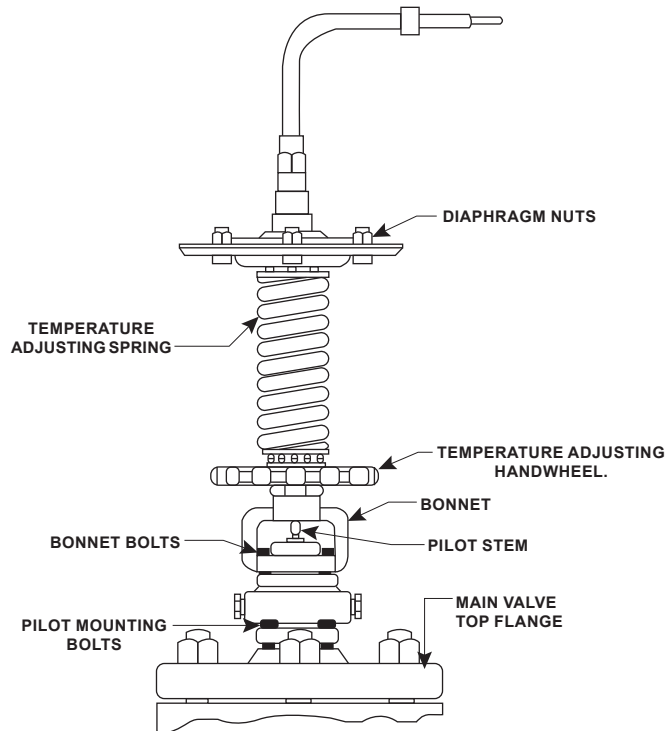

Figure 7. Type T14 Pilot Assembly Drawing
3. Remove diaphragm nuts (Figure 7) and detach thermostat assembly from pilot. Similarly detach shipping plate from replacement thermostat.
- a. Remove bonnet bolts (Figure 7) and remove top works.
2. Mark pilot steam where it emerges from the bonnet (Figure 7).